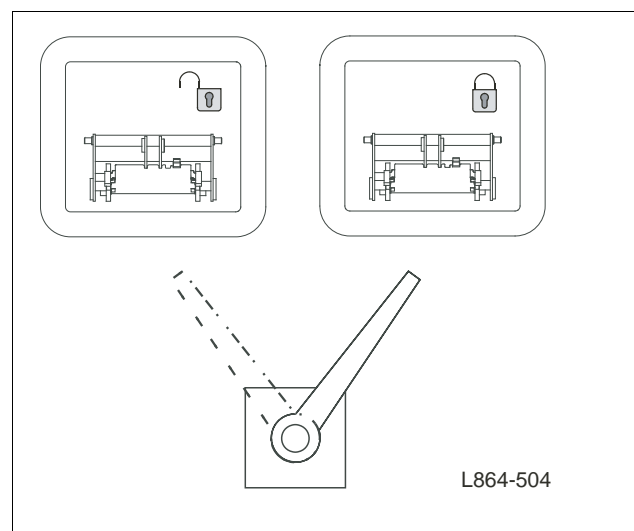

Fig. 28 Releasing and locking the hydraulic quick-attach system
- Ball valve in position "Unlock quick-attach system" (Fig. 28).
- Ball valve in position "Quick-mount hitch locked" (Fig. 28).